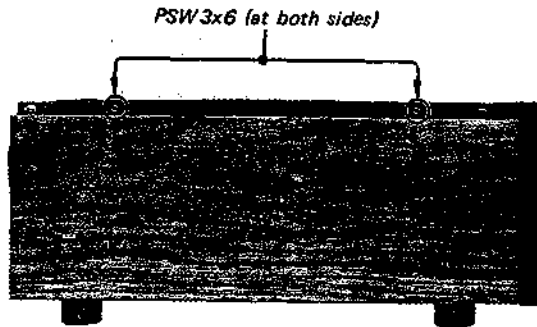
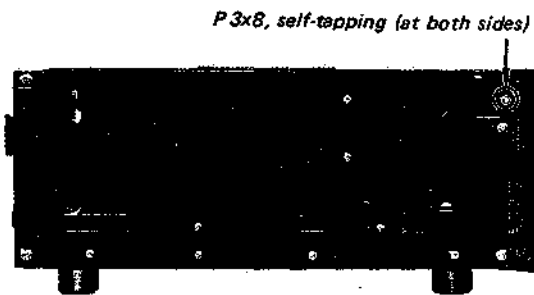
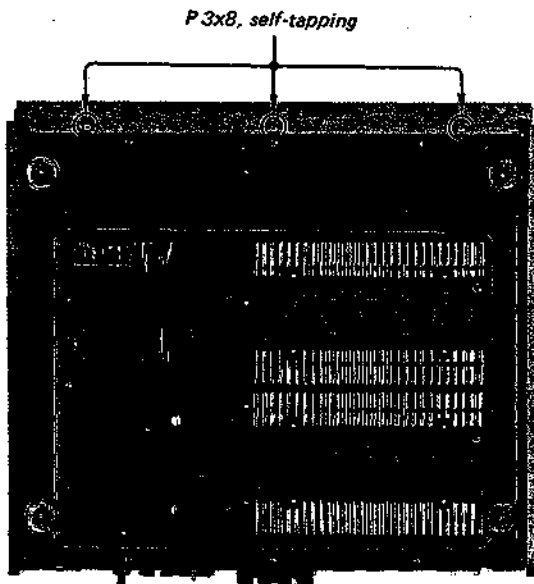

Fig. 1-1. Side panel removal
Fig. 1-2. Front panel removal (1)
Fig. 1-3. Front panel removal (2)
2. Remove the screws shown in Fig. 1-1, Fig. 1-2 and Fig. 1-3.